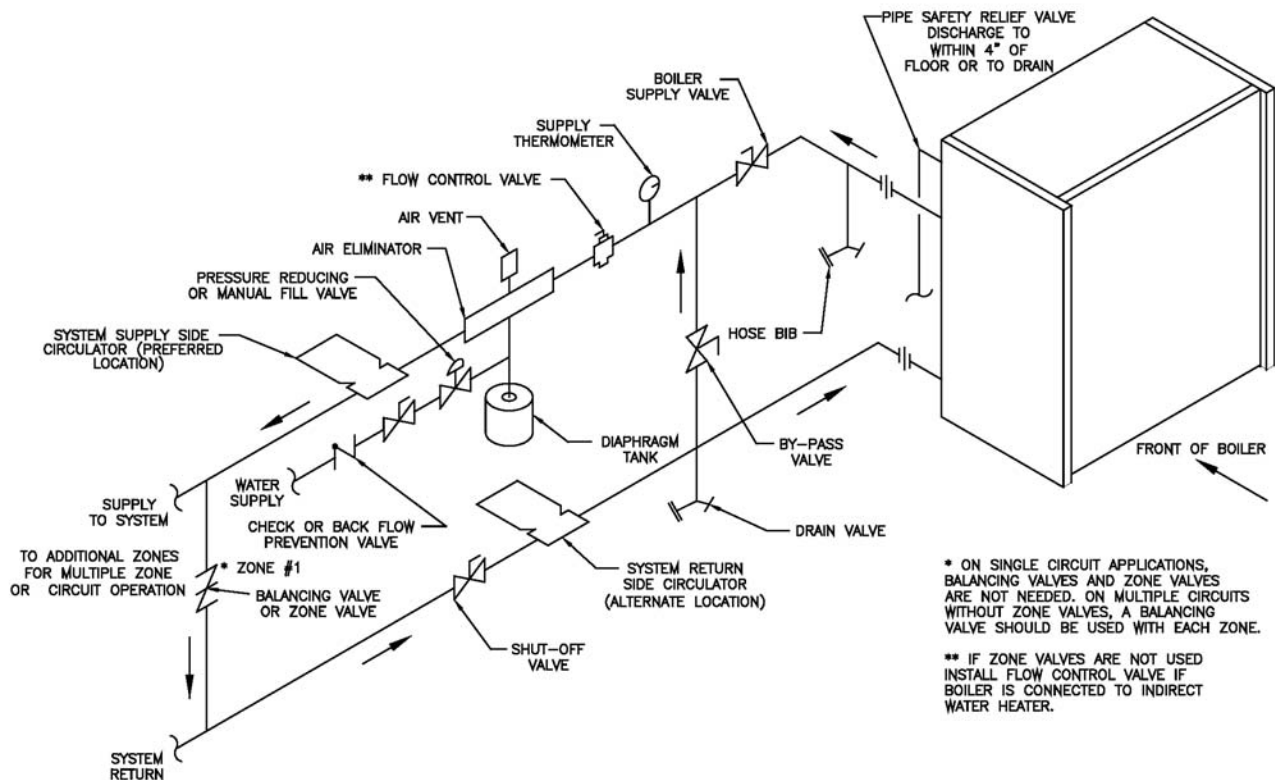

Figure 6
- a. For heating only, see Figure 6. Consult I=B=R Installation Guides. Clearance between hot water pipes and combustible material must not be less than ½”.
- f. Use a boiler bypass if the boiler is to be operated in a system which has a large volume or excessive radiation where low boiler water temperature may be encountered (i.e., converted gravity circulation system, etc.). The bypass should be the same size as the supply and return lines with valves located in the by-pass and supply outlet as illustrated in order to regulate water flow for maintenance of higher boiler water temperatures. See Figure 6.